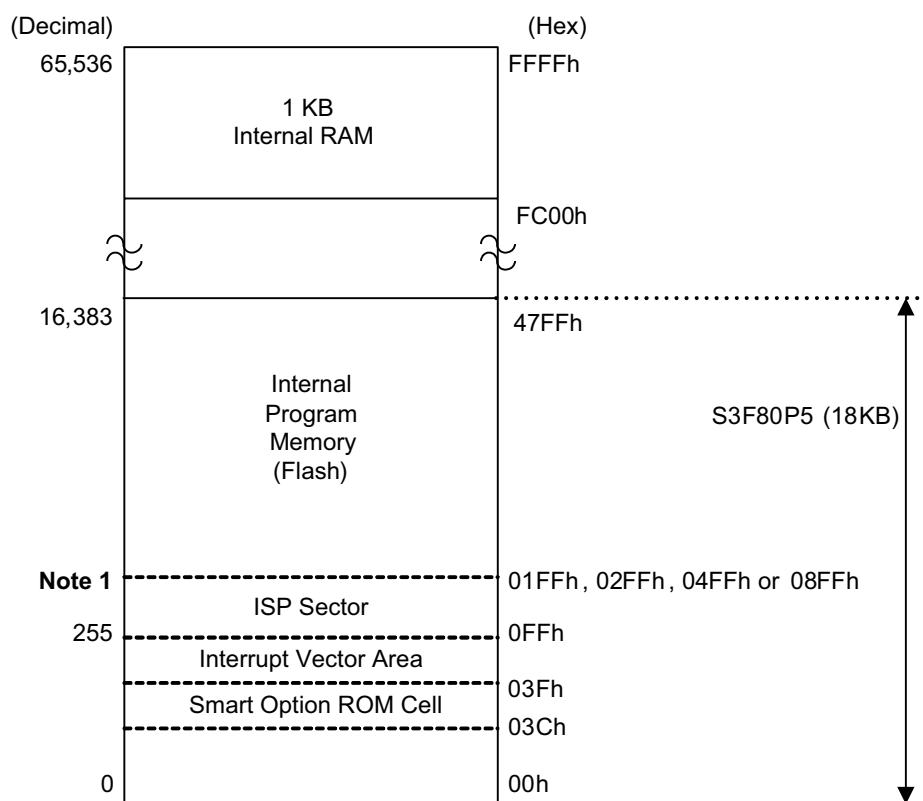

Figure 40. ROM Vector Address Area
All interrupt vector addresses for the S3F80P5 interrupt structure are stored in the vector address area of internal ROM in the address range 00h–FFFh; see Figure 40.
► **Note:** in Figure 40, the size of the ISP sector can be varied by means of the Smart Option; see Figure 10 on page 15. According to the Smart Option setting related to the ISP, the ISP reset vector address can be changed to one of the following addresses: 200h, 300h, 500h, or 900h).